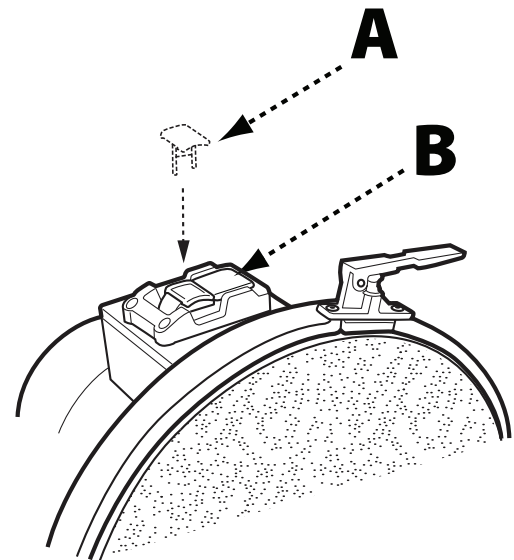

FIGURE 5
**NOTE:** The DELTA® 12" Disc Sander uses a Safety Key (A), shown in Figure 5. The Safety Key must be in place in order to operate the machine. Before attempting to turn on the sander, ensure the Safety Key is installed.
- The ON/OFF switch (B) is located on the top of the motor. To turn the sander "ON", move the switch toward rear of sander.
When the tool is not in use, the switch should be locked in the "OFF" position. This can be done by grasping the Safety Key (A), shown in Figure 5, and pulling it out of the switch. With the Safety Key